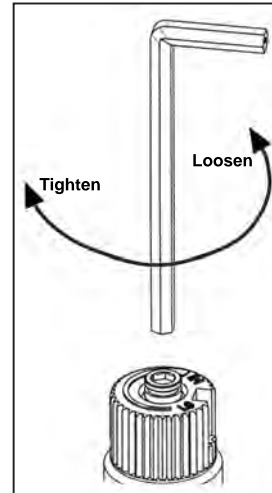

**Figure 19: Fuel Conversion Tab on Pilot.**
- b) Push the slider, with your finger or flat head screwdriver, to the left if it is to be set for natural gas or to the right for propane, red on the slider will be visible (see Figure 19).